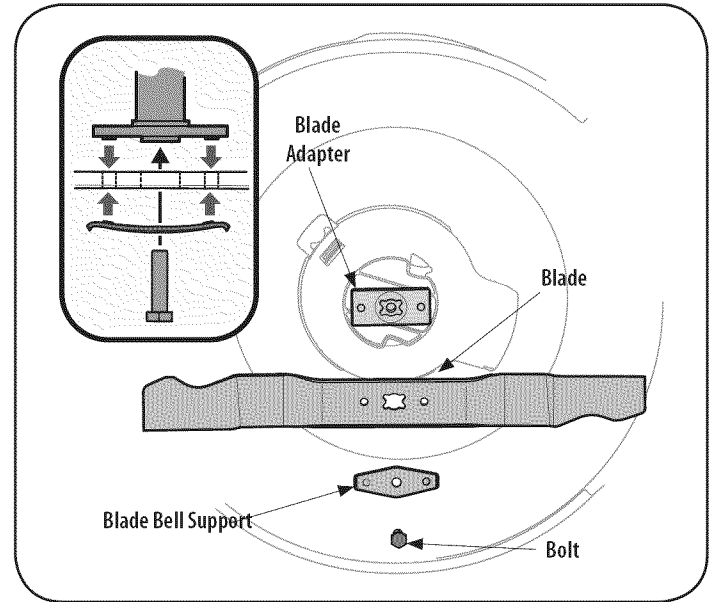

Figure 16
3. Remove the bolt and the blade bell support which hold the blade and the blade adapter to the engine crankshaft. See Figure 16.
6. Lubricate the engine crankshaft and the inner surface of the blade adapter with light oil. Slide the blade adapter onto the engine crankshaft. Place the blade on the adapter such that the side of the blade marked "Grass Side" (or with part number) faces the ground when the mower is in the operating position. Make sure that the blade is aligned and seated on the blade adapter flanges. See Figure 16 inset.